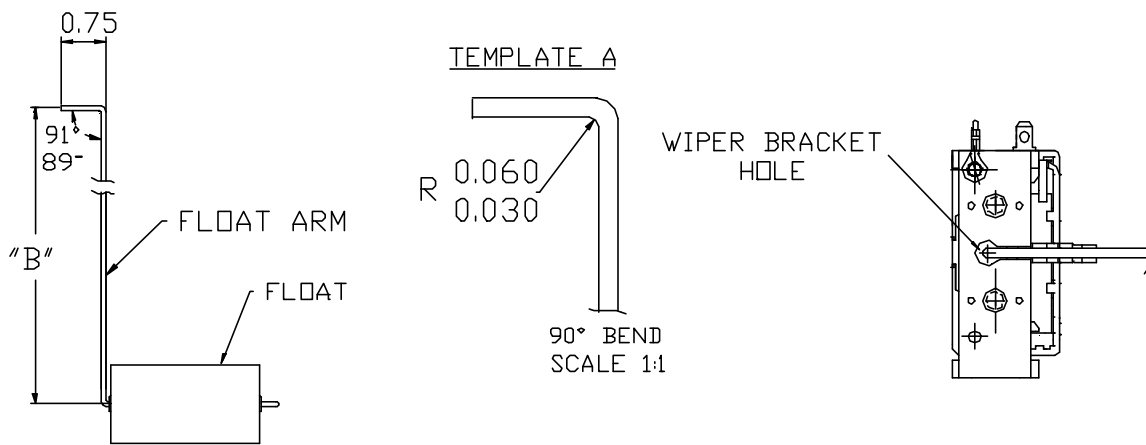

FIGURE 3.
**STEP 4B.** Cut float arm to "B" + 0.75". (Example: A float arm for a 21" tank should be cut off at 12.75") Remove burrs. Bend float arm sharply at right angle (90°) when the float is flat in the horizontal position per the dimensions below (Figure 3). Use Template "A" below as a guideline. Insert this hook into the wiper bracket hole as shown in Figure 3 and snap firmly in place, being careful not to damage plastic wiper bracket. Straighten float arm if necessary.